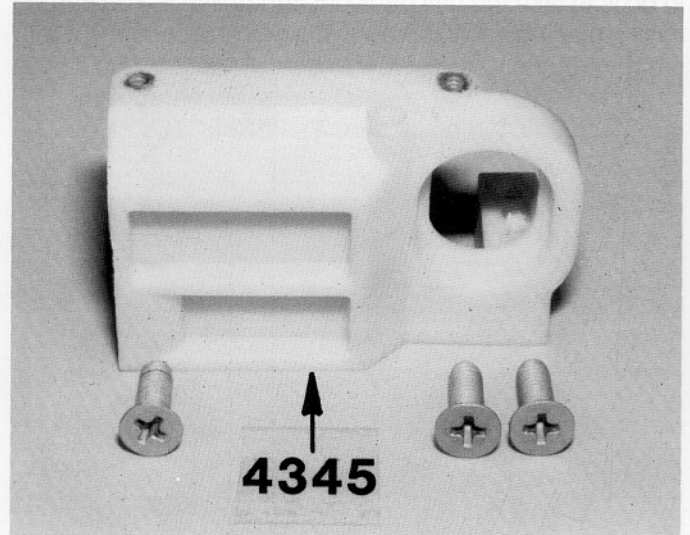

Fig. 19
□ **Figs. 19 & 20**—Open Bag #4. Install the left hand #4345 bulkhead onto the lower brace with the three flat head aluminum screws as shown. Do not overtighten.